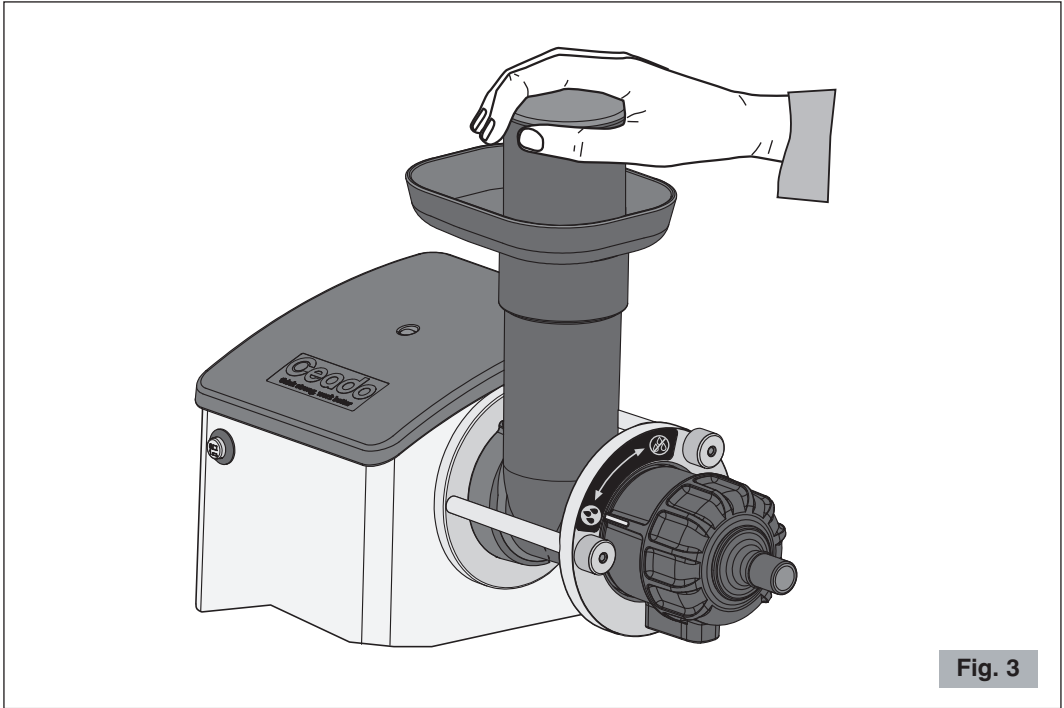

Fig. 3
- 5** Use the food pusher provided, to gradually push down the fruit and/or vegetables towards the rotating auger at the bottom of the feed chute (see Fig. 3). To obtain more juice always press the food pusher lightly. Do not insert fruit and/or vegetables when the motor is off.